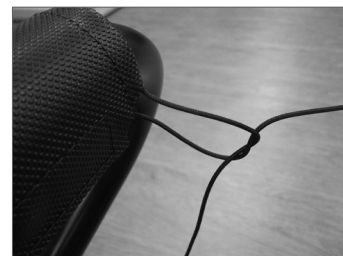

Figure 9
10. Tighten each end of the footbar cover by tying a simple knot as shown in Figure 9. It helps to wrap each end of the string around something such as a pen or a pencil before pulling to get a better grip as shown in Figure 10. Slowly pull both ends of the string at the same time until the ends of the new footbar cover close around the foam as shown in Figure 11. **Warning: If the string is pulled with too much force it will cut through the footbar cover. Finish by tying another knot. Repeat for both sides.**